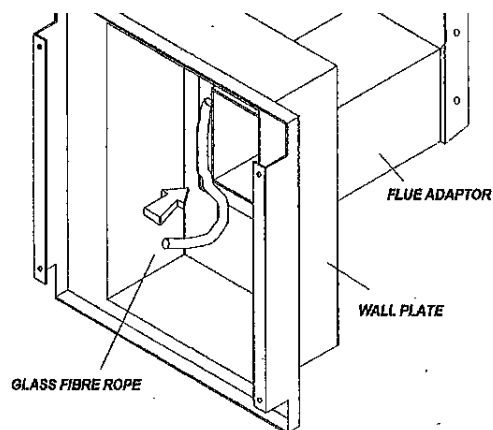

Fig.3
- 5.2 Cut the last flue length at a position such that the flue adaptor can be fitted (This converts the flue from rectangular to square (see Fig. 3)